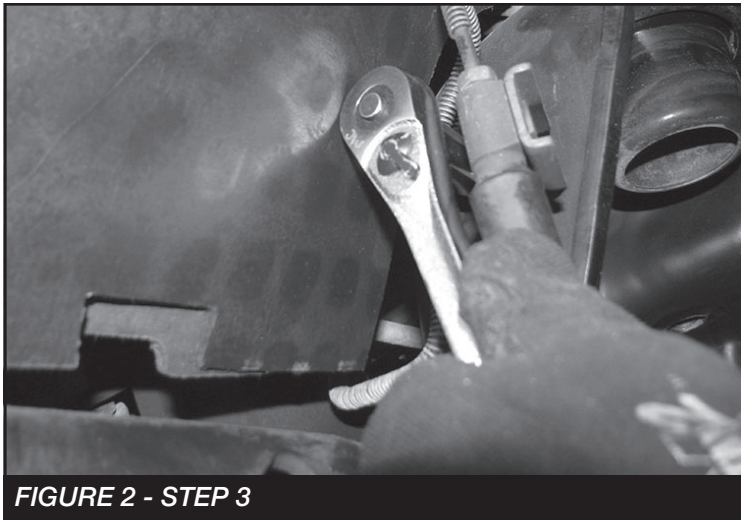

FIGURE 2 - STEP 3
3. Remove the brake line bracket from the frame. (05-10 models) **SEE FIGURE 2.**